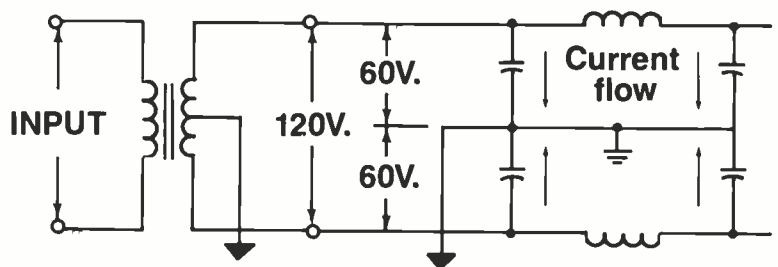

Figure 6. A 120V, 2-phase grounded system plugged into a typical R.F. filter.
Figure 6 is a 120V, 2-phase grounded system plugged into a typical R.F. filter. The phase to ground voltage on each side of the ac line is about 60V. Each line of the iso-transformer output is 180° out of phase to its opposite; thus 120V is achieved. When this voltage is applied to an R.F. filter, the current passed through the capacitors is negated at the common chassis ground by its 180° out-of-phase voltage counterpart. This cancellation effect is optimum for audio equipment.
1. The isolation transformer used must have a center tap on the output windings (refer to Figure 6) that is appropriately grounded. This will ensure sufficient fault current to trip a circuit breaker in the event of a short circuit somewhere in the system.